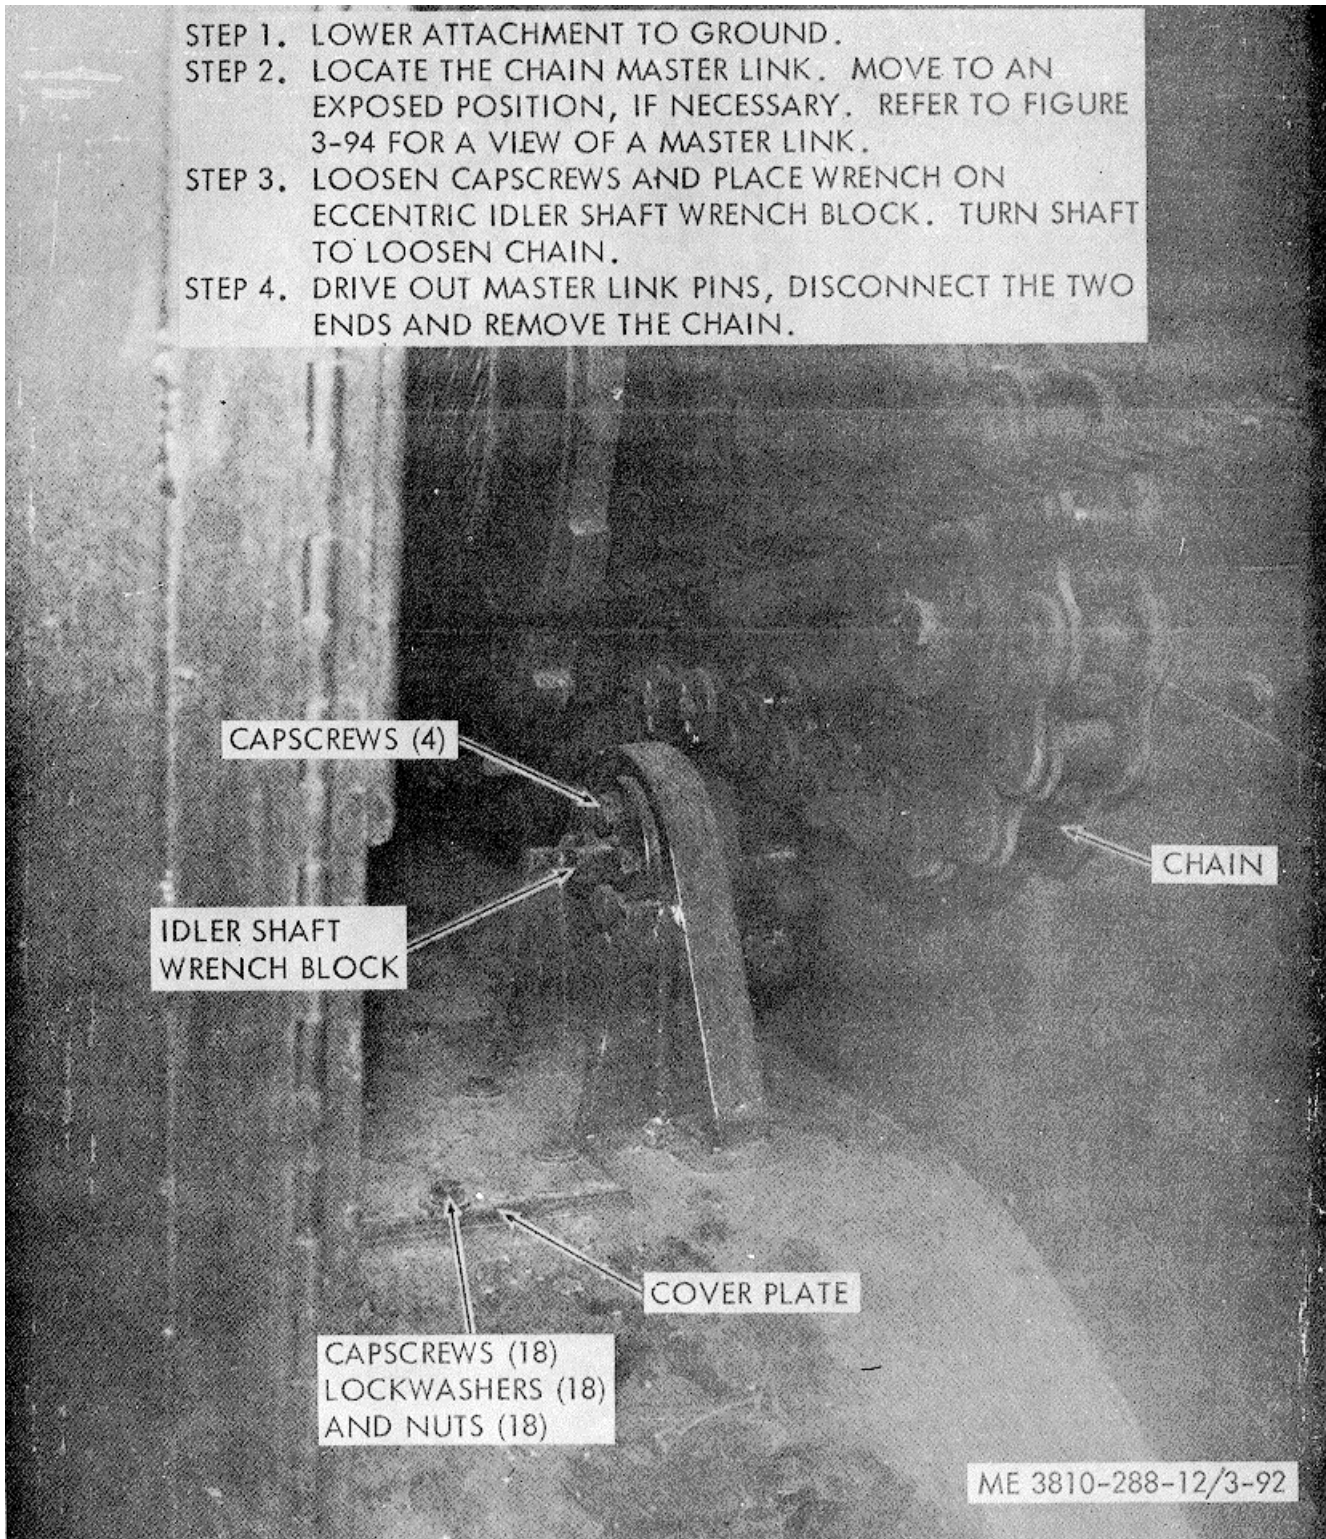

Figure 3-92. Reversing shaft chain, removal and replacement.
b. *Reversing Shaft Chain.* Refer to figure 3-92 and remove the reversing shaft chain.
- STEP 3. REMOVE COVER PLATE. REFER TO FIGURE 3-92.